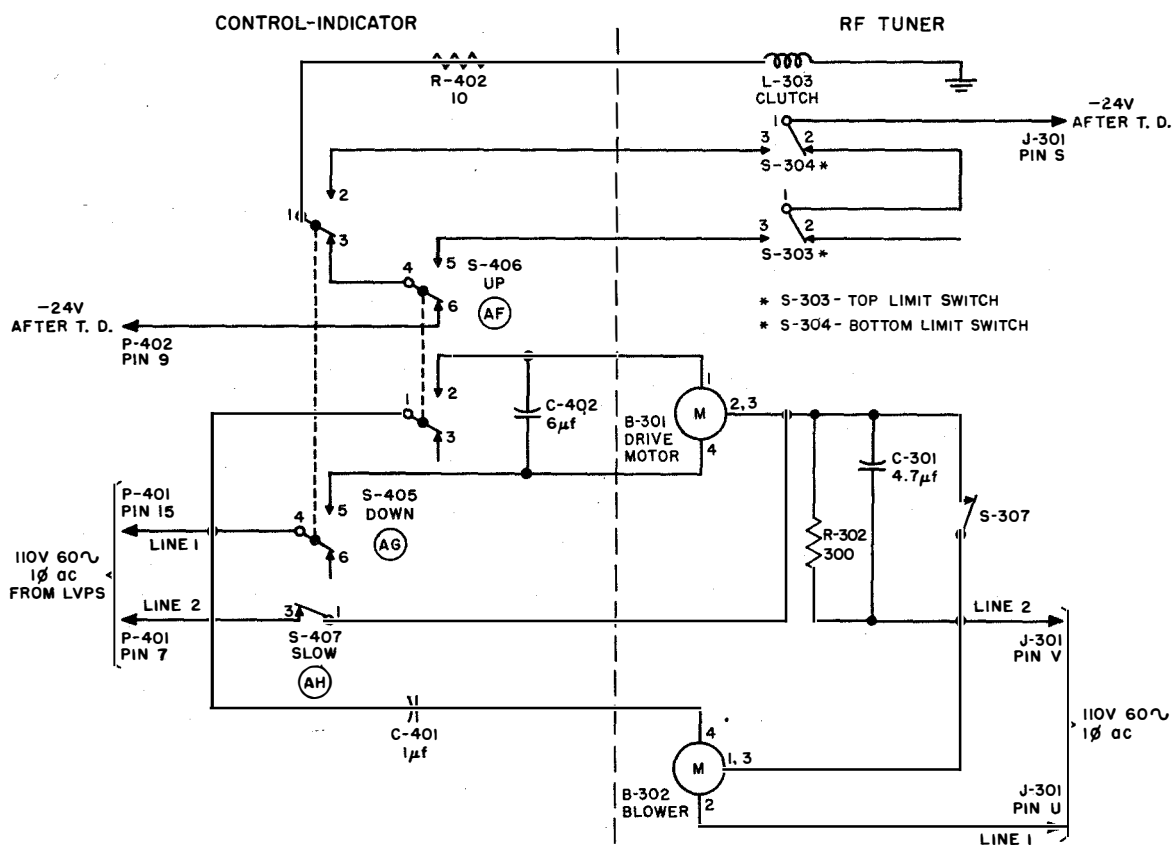

Figure 2-42. R-F Tuner Drive Motor Control Circuit, Simplified Schematic
(1) DRIVE MOTOR CONTROL CIRCUIT.—The drive motor control circuit (figure 2-42) controls the operation of the drive motor in the radio frequency tuner, which, in turn, positions the shorting ring on the main tuning coil.